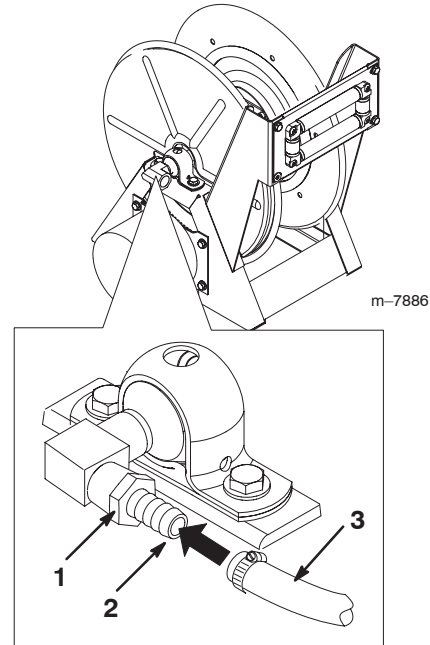

Figure 14
16. Wrap Teflon tape from around the threads of a barbed fitting (1/2 inch) while the face of the gauge is facing you and install it into the inlet port on the side of the hose reel (Fig. 14).
17. Connect the end of the hose to the fitting on the hose reel (Fig. 14) and secure both ends with 2 small metal hose clamps.